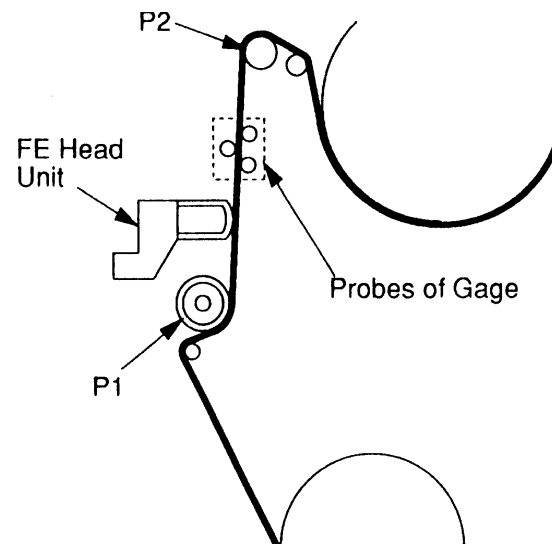

Fig. 3 - Back Tension Measurement/Adjustment
Back Tension Measurement/Adjustment (Figs. 3, 4)
2. Insert a tension meter into the tape path (Fig. 3) and measure the back tension. The measurement should be 25.0 grams \pm 2.5 grams.